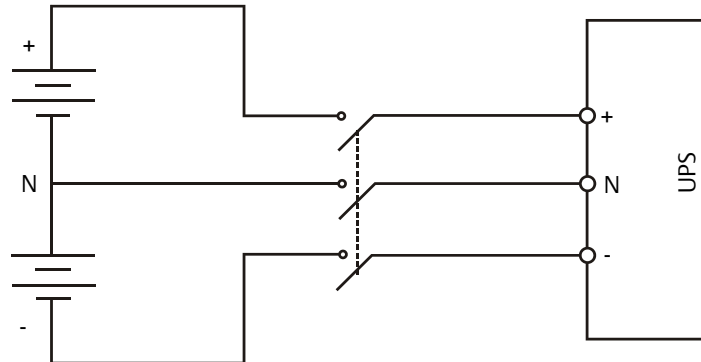
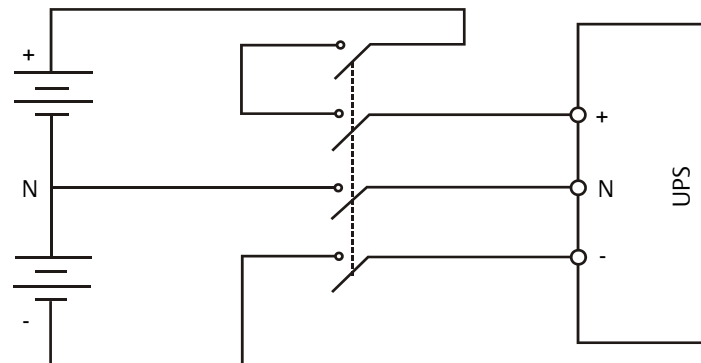

Figure 6-3 Connections between battery, BCB and UPS (3 wires at battery side, battery consisting of 30 to 34 cells)
Figure 6-4 Connections between battery, BCB and UPS (3 wire at battery side, battery consisting of 36 to 40 cells)
2. If the external battery is configured to use CT wiring (that is, three wires will be led out from the battery side), it is recommended to use a 4P DC MCCB, with DC rated voltage of the breaker meeting 1-pole 250Vdc, 2-pole 500Vdc, 3-pole 750Vdc, and rated breaking capacity limit being 35kA. If the battery cell number ranges from 30 to 34, for cost-saving purpose, refer to Figure 6-3 for the connections between the battery, BCB and UPS. If the battery cell number ranges from 36 to 40, refer to Figure 6-4 for the connections between the battery, BCB and UPS.